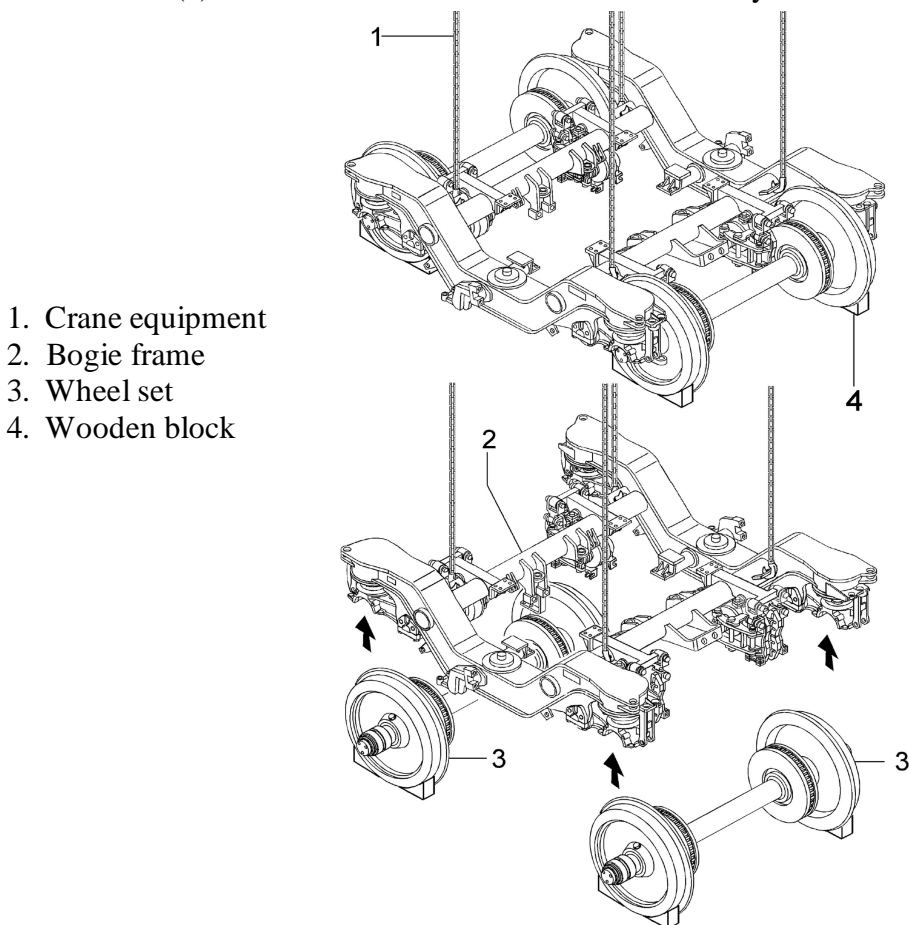

Fig 3.18 Lifting the Bogie Frame
It is then possible to proceed with lifting the bogie frame (see Fig. 3.18). However, make sure that both wheel sets are secured with wooden blocks (4) from both sides. Be sure that the brake levers are in OPEN position: if not, turn the nut on the brake cylinder using a wrench. Then hook the crane equipment (1) to the frame (2) and then lift it with care. The two wheel sets (3) remain on the floor and can be rolled away.